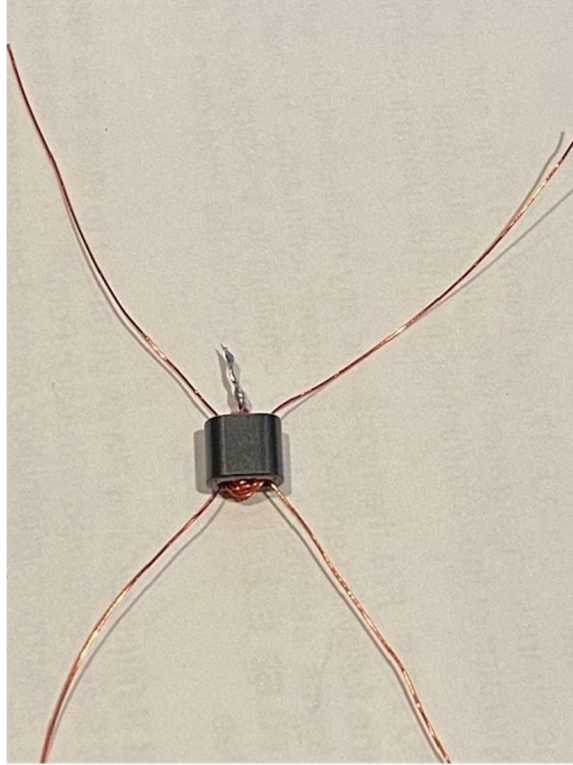

Figure 10. T1 Transformer Windings Completed.
- vii. Now take the remaining 4" piece of wire (cut above) and wind the primary. Start with about 1 inch of wire sticking out of the OPPOSITE side of the core from the primary. Make sure you have 3 passes through BOTH sides of the core for the primary. The completely wound transformer should look like Figure 10.